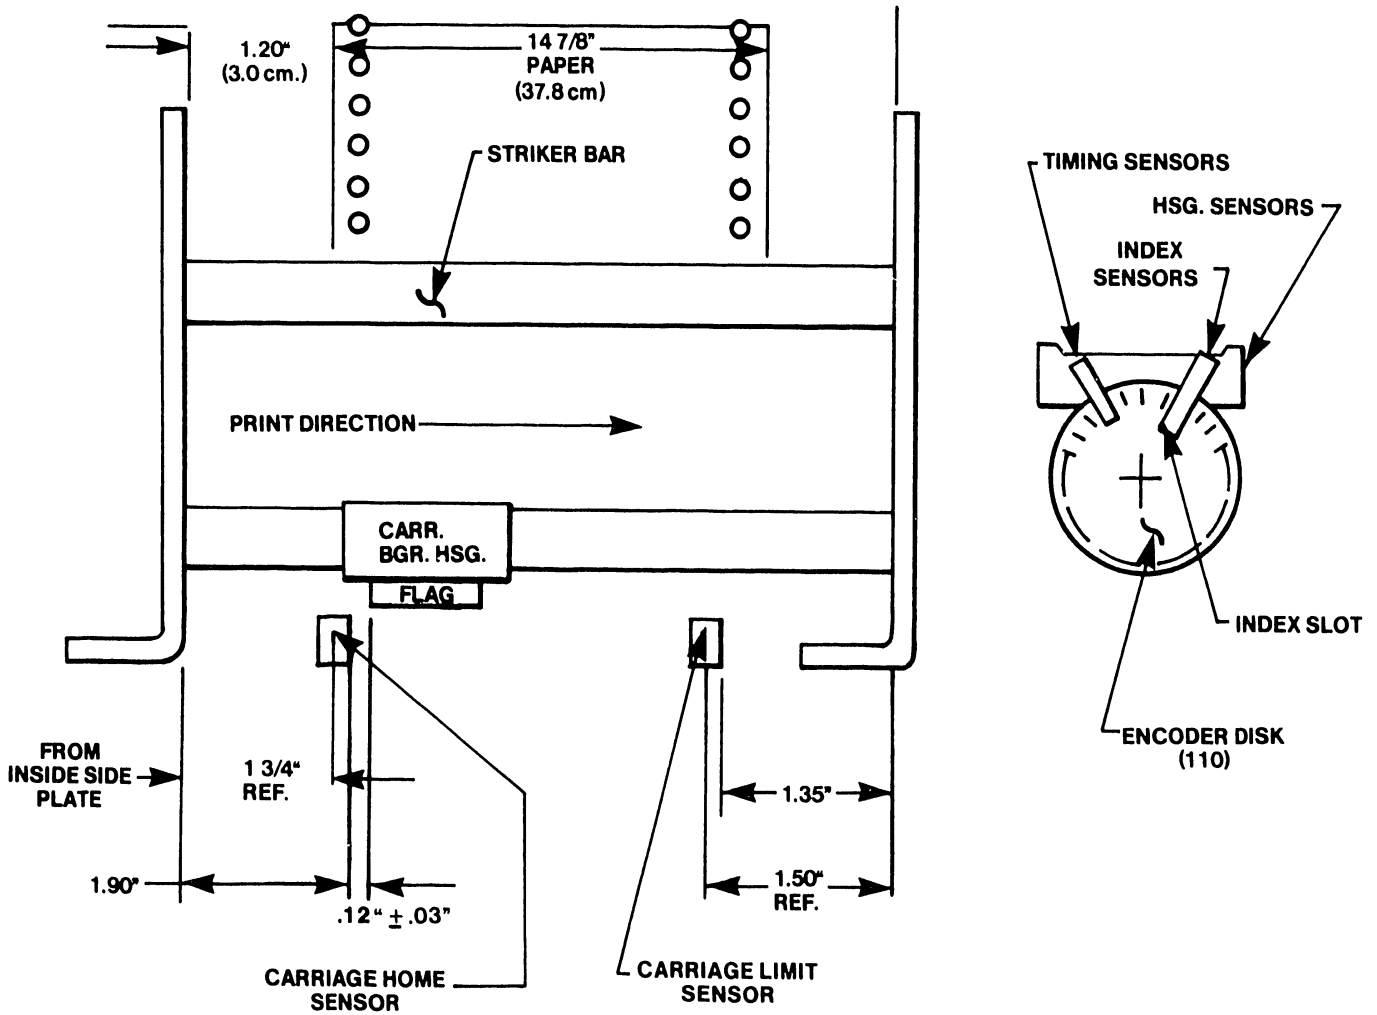

Figure 5-7 Left and Right Sensor Settings
- b. Using a 6" metal scale, measure the distance from the inside of the left side plate to the right side of the left sensor as shown in Figure 5-7.
- a. Using a Phillips screwdriver, loosen the two screws that fasten the left sensor mounting bracket to the bottom plate. See Figure 5-7 for sensor location.
- d. The carriage flag plate (under the carriage housing) must be positioned  $.12" + .03"$  (approx.  $1/8"$ ) from the right side of the carriage home sensor as illustrated in Figure 5-7. To make this adjustment and measure the results, remove the print head and bracket assembly. Place the inspection mirror in back of the drive belt in front of rear carriage support shaft. View the adjustment through cutout in carriage base plate.
- a. Using a Phillips screwdriver, loosen the two screws that fasten the right sensor mounting bracket to the bottom plate. See Figure 5-7 for sensor location.
- c. Position the left edge of the flag under the print head carriage assembly for a close tolerance of  $.12" \pm .03"$  ( $3.04\text{mm} \pm .76\text{mm}$ ) from the right edge of the left sensor as illustrated in Figure 5-7.
- a. Slightly loosen the two screws that fasten the right sensor to the bottom plate. See Figure 5-7, for carriage limit sensor location.